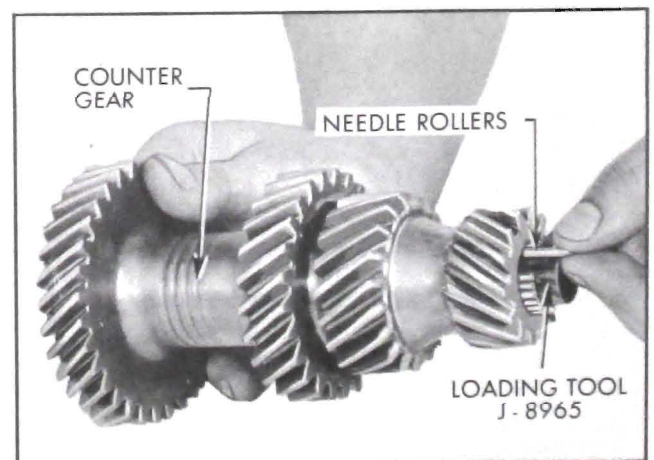

Figure 4-20—Loading Needle Rollers
3. Hold counter gear in vertical position and while supporting bearing loading tool from below, insert inner bearing spacer (washer) and place 22 needle rollers in position around loading tool using heavy grease to hold them in place. Insert outer bearing spacer. Repeat this procedure on opposite end. See Figure 4-20.